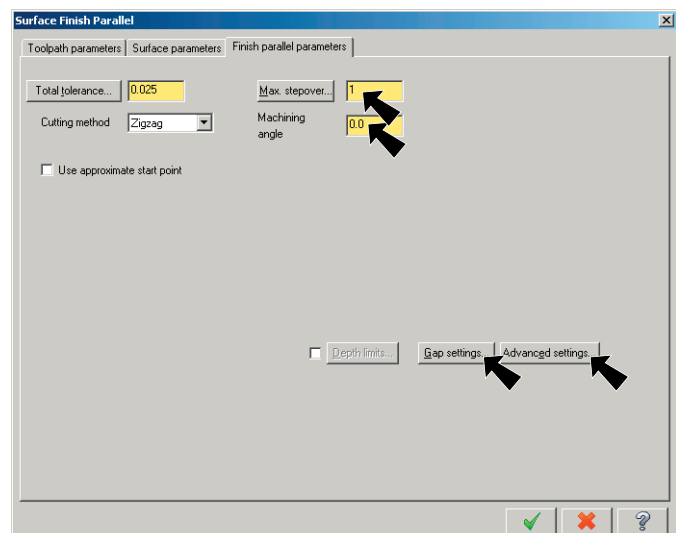

Fig. 45
Step 7. Set **Max Stepper: 1** Fig. 45
Step 9. Click **Gap settings** button. Fig. 45
Step 12. Click **Advanced settings** button, Fig. 45.